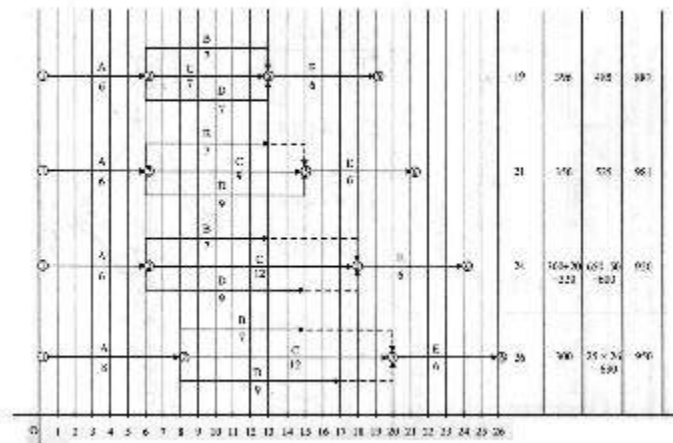

Figure 15.36 (a) Squared Network for Problem 6.8
- (a) Figure 15.36 (a) shows the squared network.